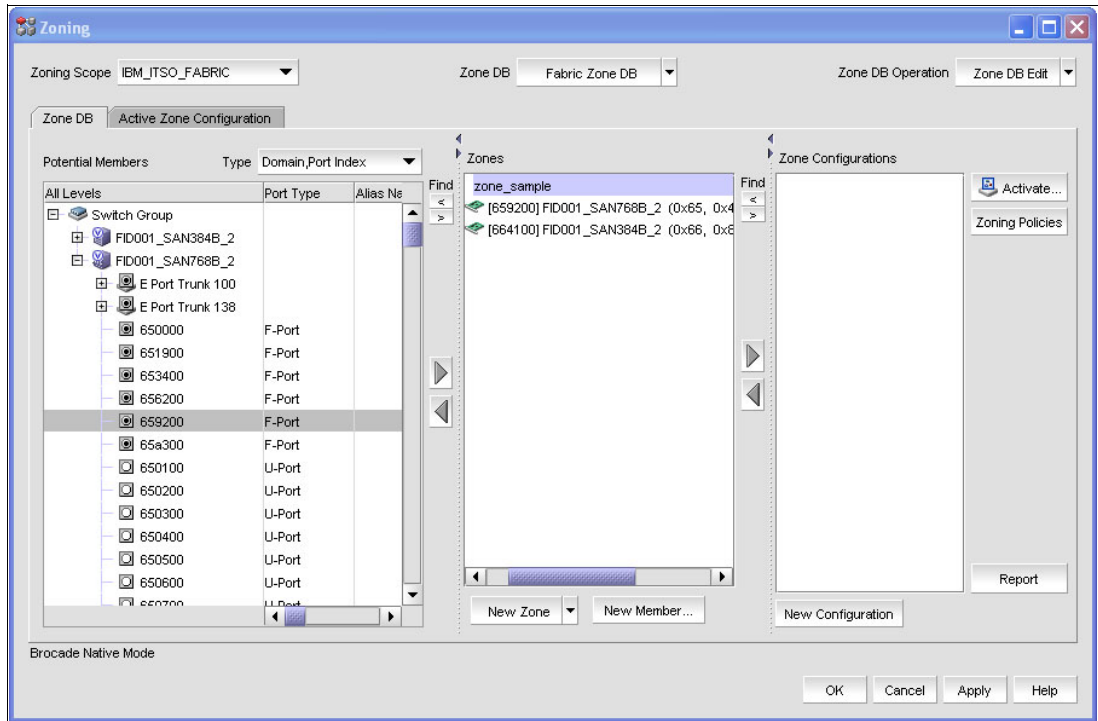

Figure 8-51 Creating zones
- The result is shown in Figure 8-51 on page 293.